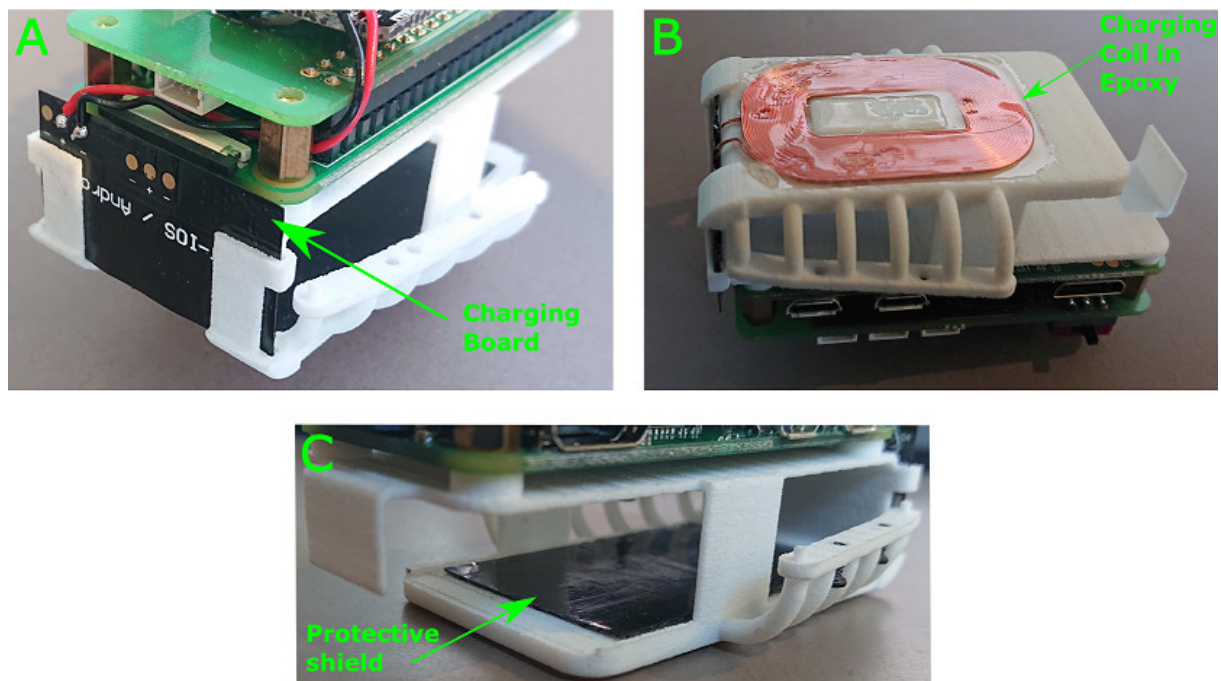

Fig. 16. Assembly of the charging coil to the Power and Compute Module.
If you want to have the wireless charging feature for the robot, you will have to attach the charging coil to the Solarplexus as shown in Figure 16. First insert the Charging Board into the slot at the front of the Solarplexus (A), then you can bend the coil on to fit into the bottom of the Solarplexus and glue it in place with the Epoxy (B). Finally add the Protective shield that comes with the charger into the battery compartment.